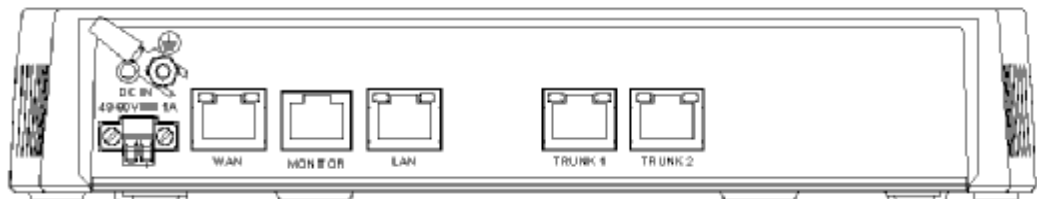

Figure 2-2. IDU Rear Panel
2. Connect the ODU cable to the RJ-45 connector on the IDU rear panel designated WAN. *Figure 2-2* illustrates a typical panel of the IDU.
The IDU is a standalone desktop, wall-mounted or rack-installed unit. Figure 2-2 illustrates a typical rear panel of the IDU.